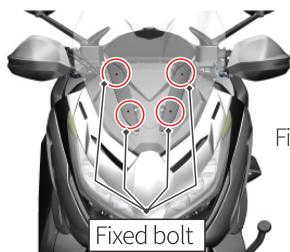

Figure 1
1. First, raise the windshield to the highest position, then turn off the vehicle power, and remove the windshield (Fig 1: The red circle is the fixed bolt)